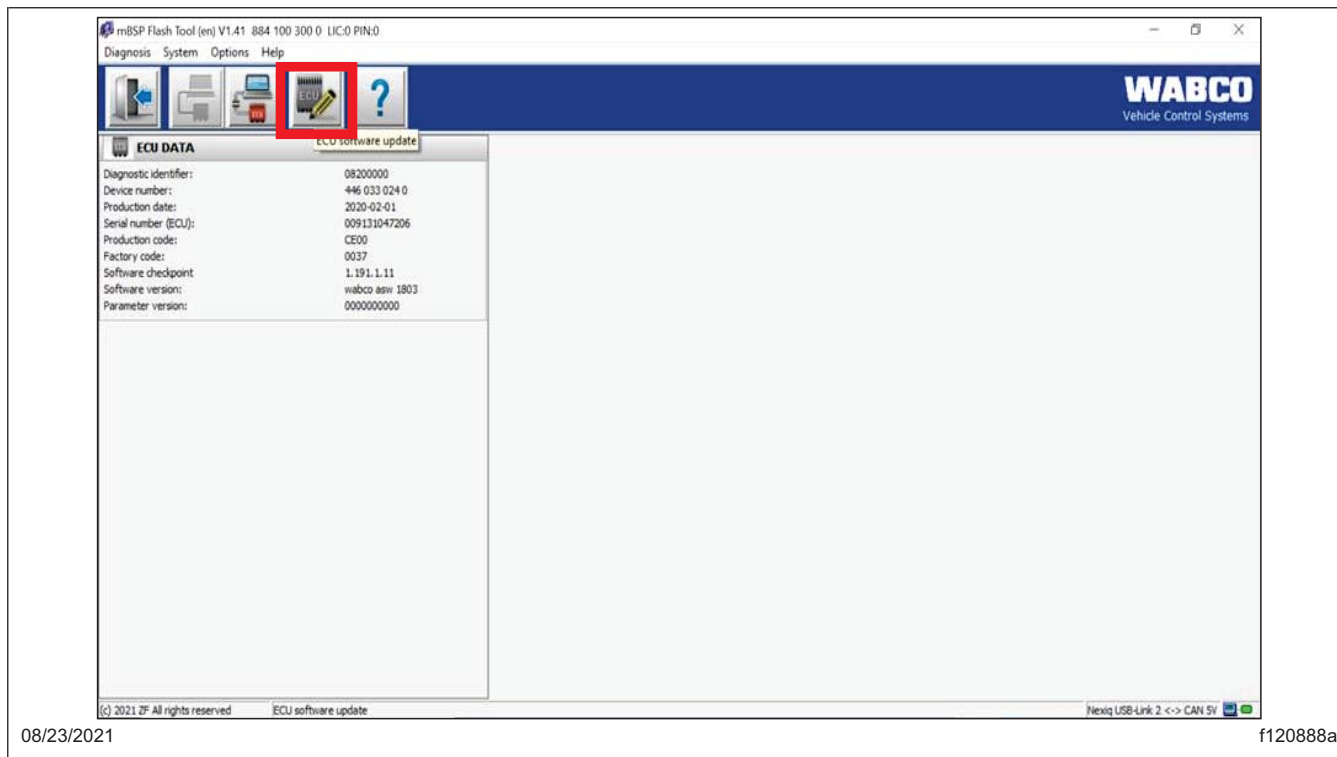

Fig. 29, ECU Software Update
14. See **Fig. 29**. Select the 'ECU software update,' button to begin the ECU update.